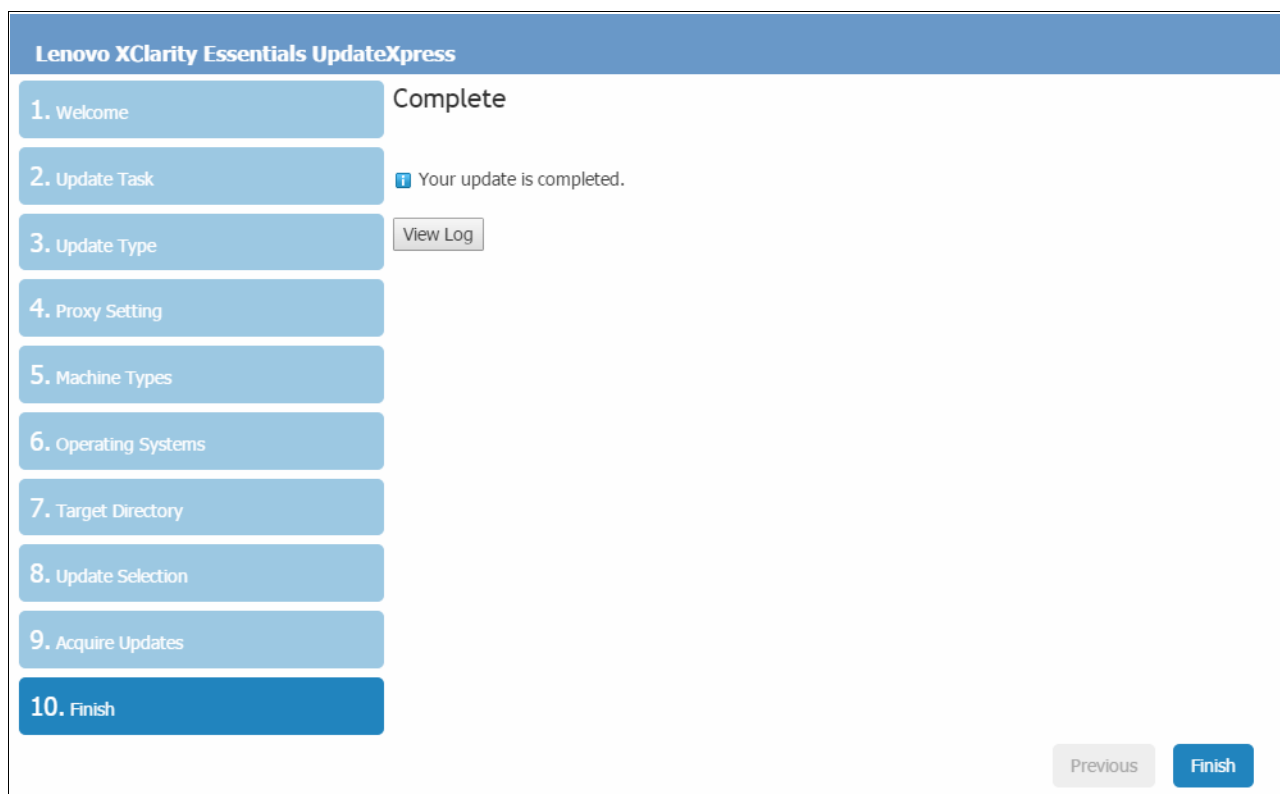

Figure 5-58 Successful completion screen
- 15.The Finish screen will appear as seen in Figure 5-58. You can either view the logs of the download or select **Finish**. The program will then exit.